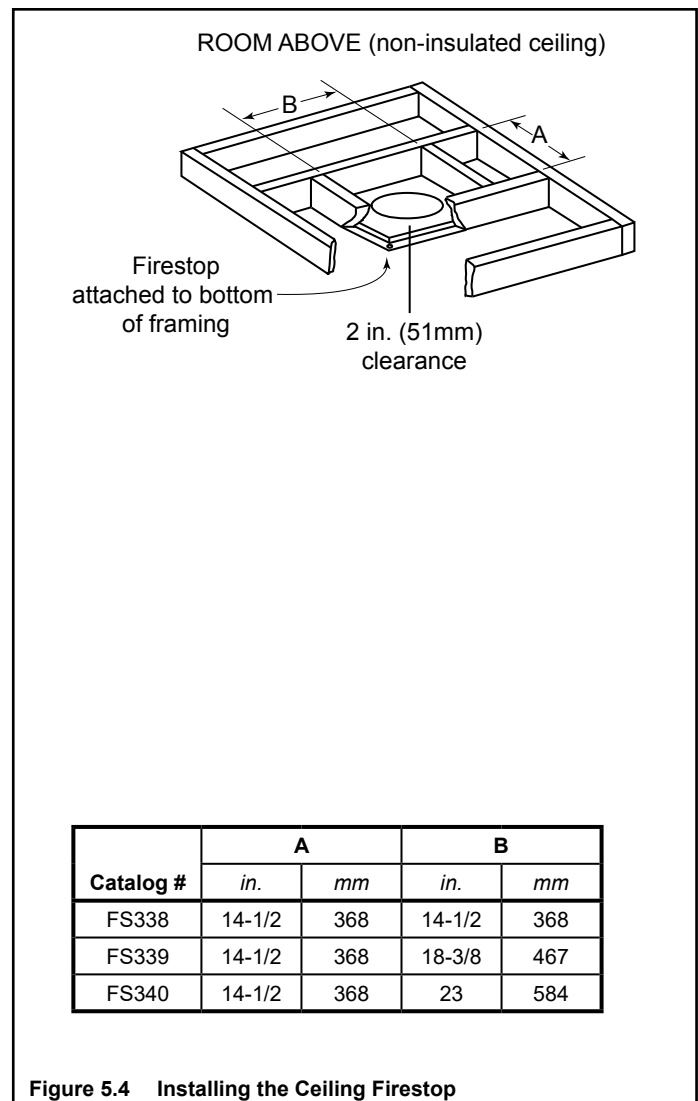

Figure 5.4 Installing the Ceiling Firestop
- Mark and cut an opening in ceiling as shown in Figure 5.4.